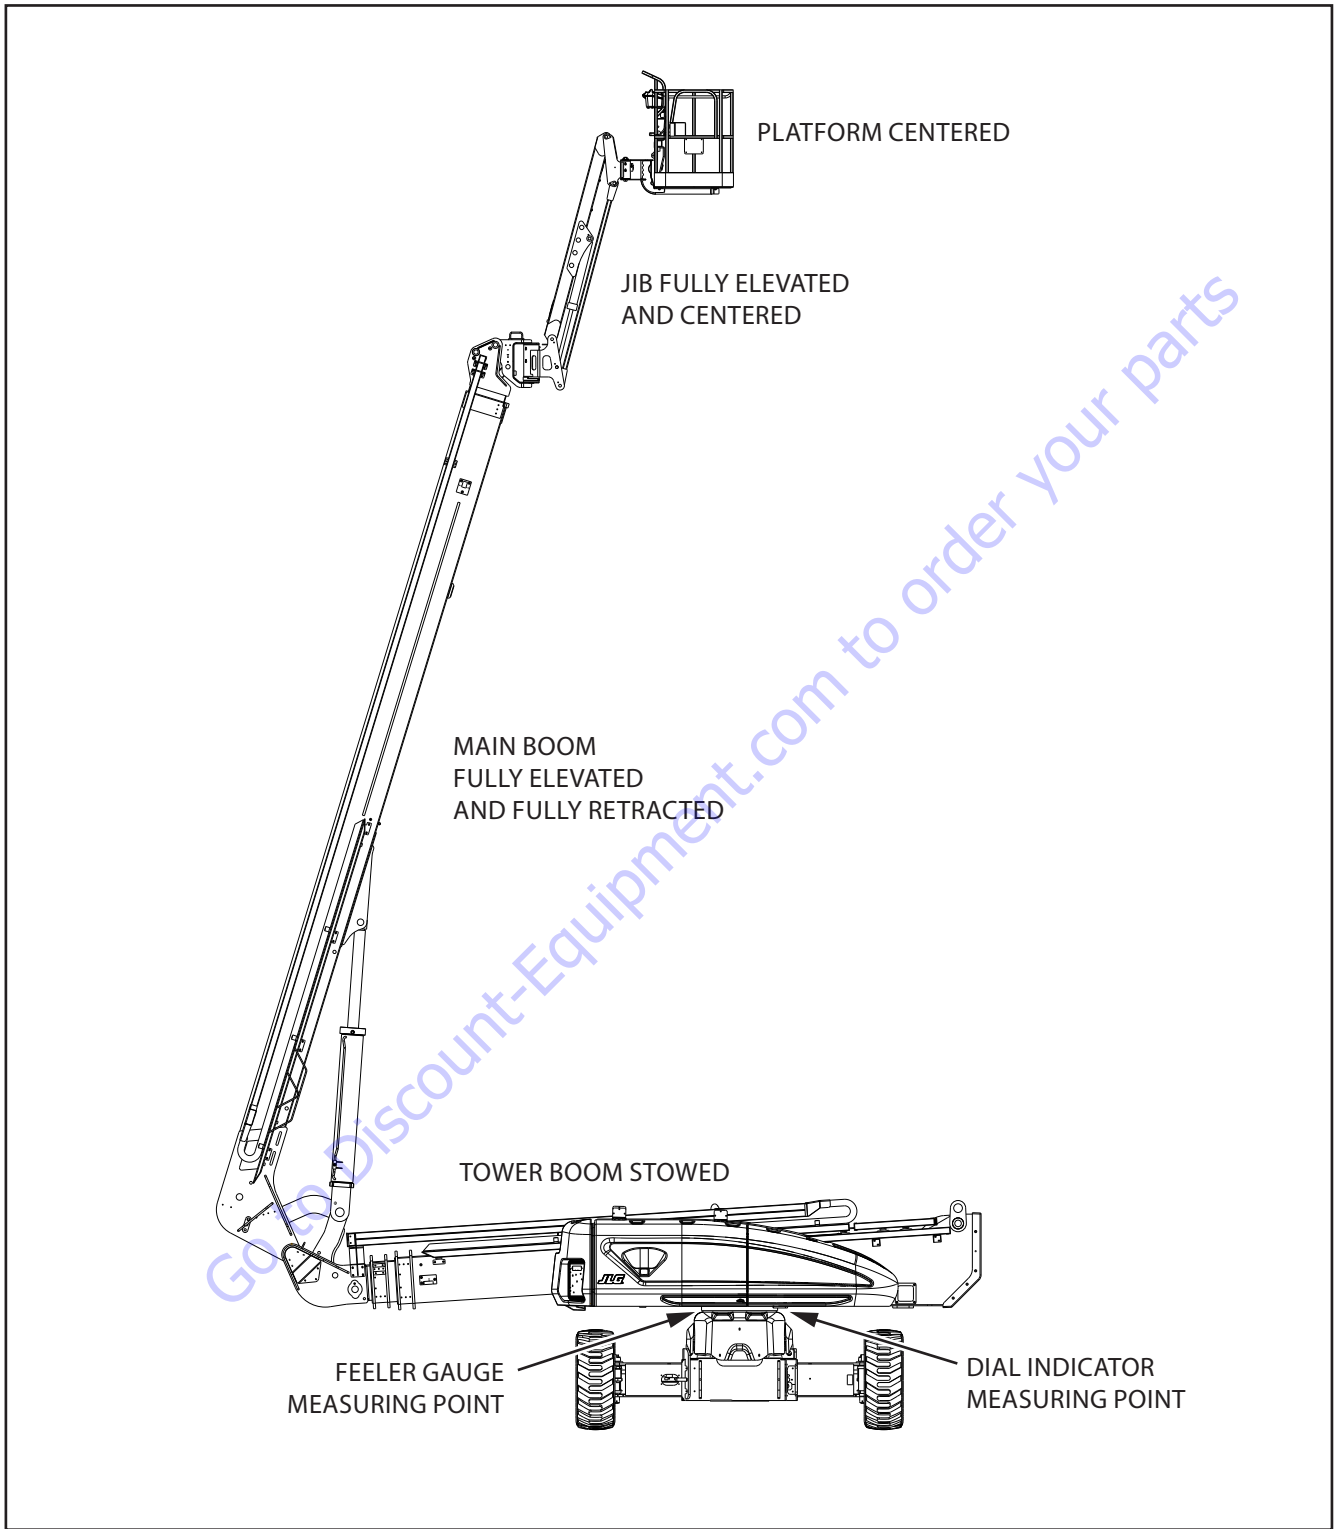

Figure 3-48. Turntable Bearing Service Boom Placement - 1
- a. Raise main boom to be fully elevated and retracted. Stow tower boom. Raise jib to be fully elevated and centered. Center platform and keep it unloaded. (See Figure 3-48.)
- b. At position indicated on Figure 3-48., try to insert a 0.0015 in (0.038 mm) feeler gauge between frame side bearing bolt and hardened washer.
1. Position machine as follows and as shown in Figure 3-48.
6. Position machine back to the first position as outlined in Step 1 and shown in Figure 3-48. The dial indicator should return to zero. If dial indicator does not return to zero, determine corrective action and repeat test.